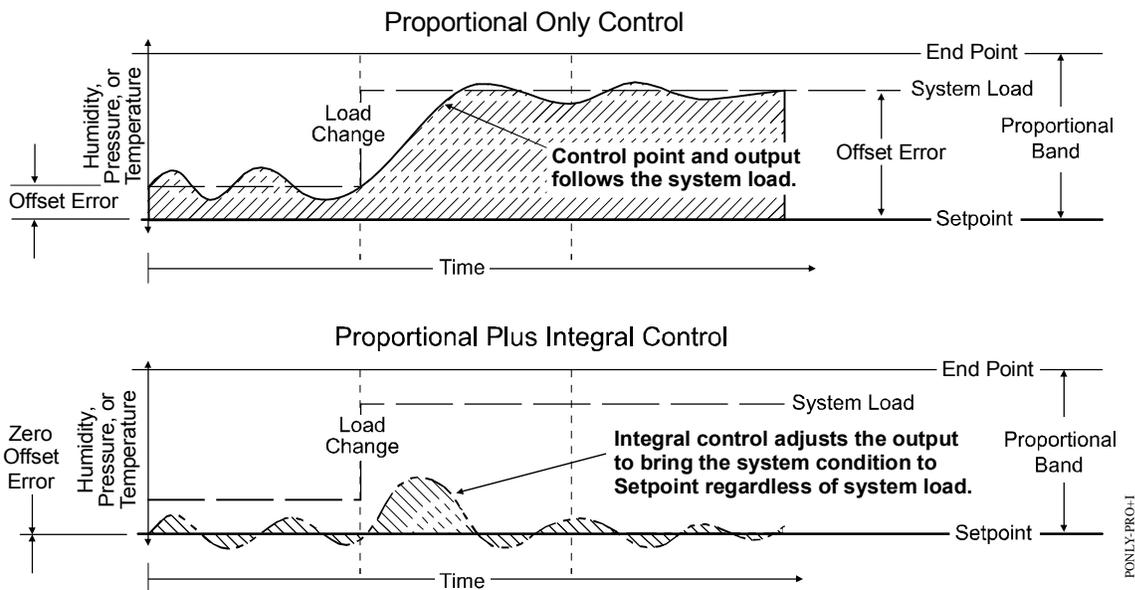

Figure 8: Proportional Only Control Versus Proportional Plus Integral Control
In addition to standard proportional control, System 450 provides **Proportional plus Integral** (PI) control capability. The addition of integral control enables a properly set up analog output to drive a controlled condition closer to Setpoint (Figure 8).
Standard **proportional-only** controls continuously adjust the output in proportion to the difference (offset error) between the Setpoint value and the sensor value. As the load on the system increases, the offset error increases. A proportional-only control responds to the increased offset error by changing the output signal, which drives the controlled equipment to compensate for the load change (Figure 8). Proportional-only control loops are relatively easy to set up and adjust.
Proportional plus Integral (PI) control incorporates a time-integral control action with proportional control action and, if properly set up, a PI control loop can effectively eliminate offset error and enable a controlled system to drive to setpoint even under large constant loads (Figure 8). On a properly sized system with predictable loads, PI control can maintain the controlled system very close to setpoint.